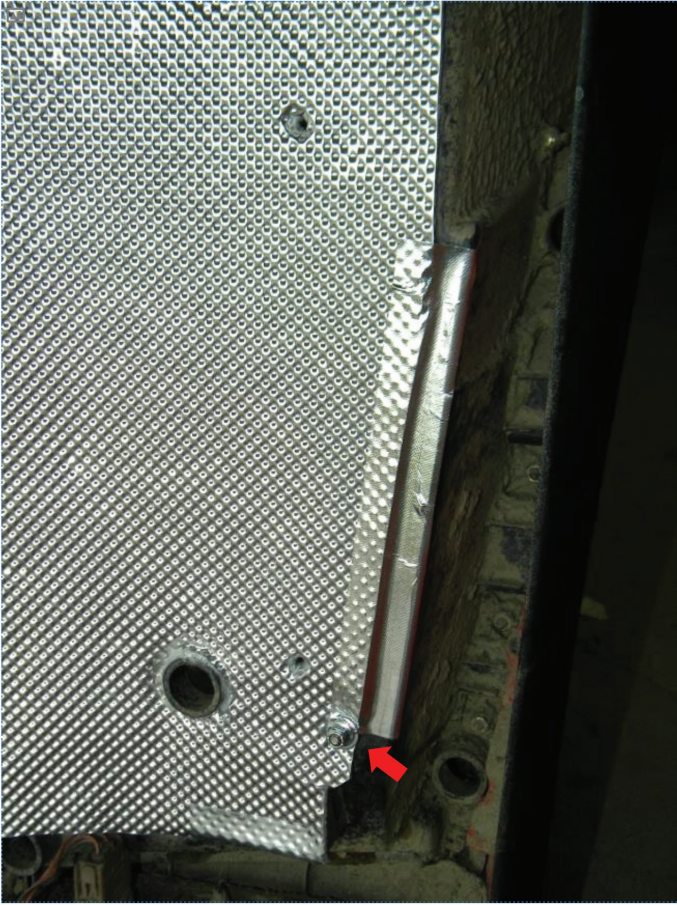

Fig 3
8. The holes for the stock Torx bed retainer screws have been pre-cut, but you may have to slot the hole slightly because of production tolerances. Fig. 3